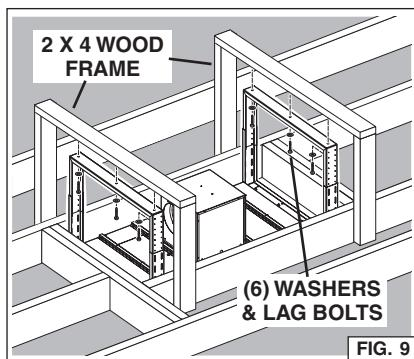

FIG. 9
5. Secure each support frame to the wooden hood support frame using (6) 6 x 70 mm lag bolts and washers provided. Fig. 9.